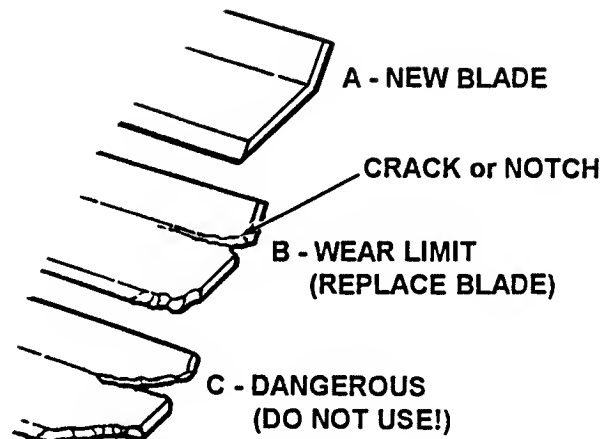

FIGURE 4.20
1. Inspect blade frequently for signs of excessive wear or damage. See Figure 4.20.
Before performing any service to blade, turn engine OFF, remove key, remove spark plug wire from spark plug, and secure spark plug wire away from spark plug. Never use a cutting blade that shows signs of excessive wear or damage on the Rear Engine Rider. Refer to Figure 4.20.
3. Inspect condition of blade. Refer to Figure 4.20.